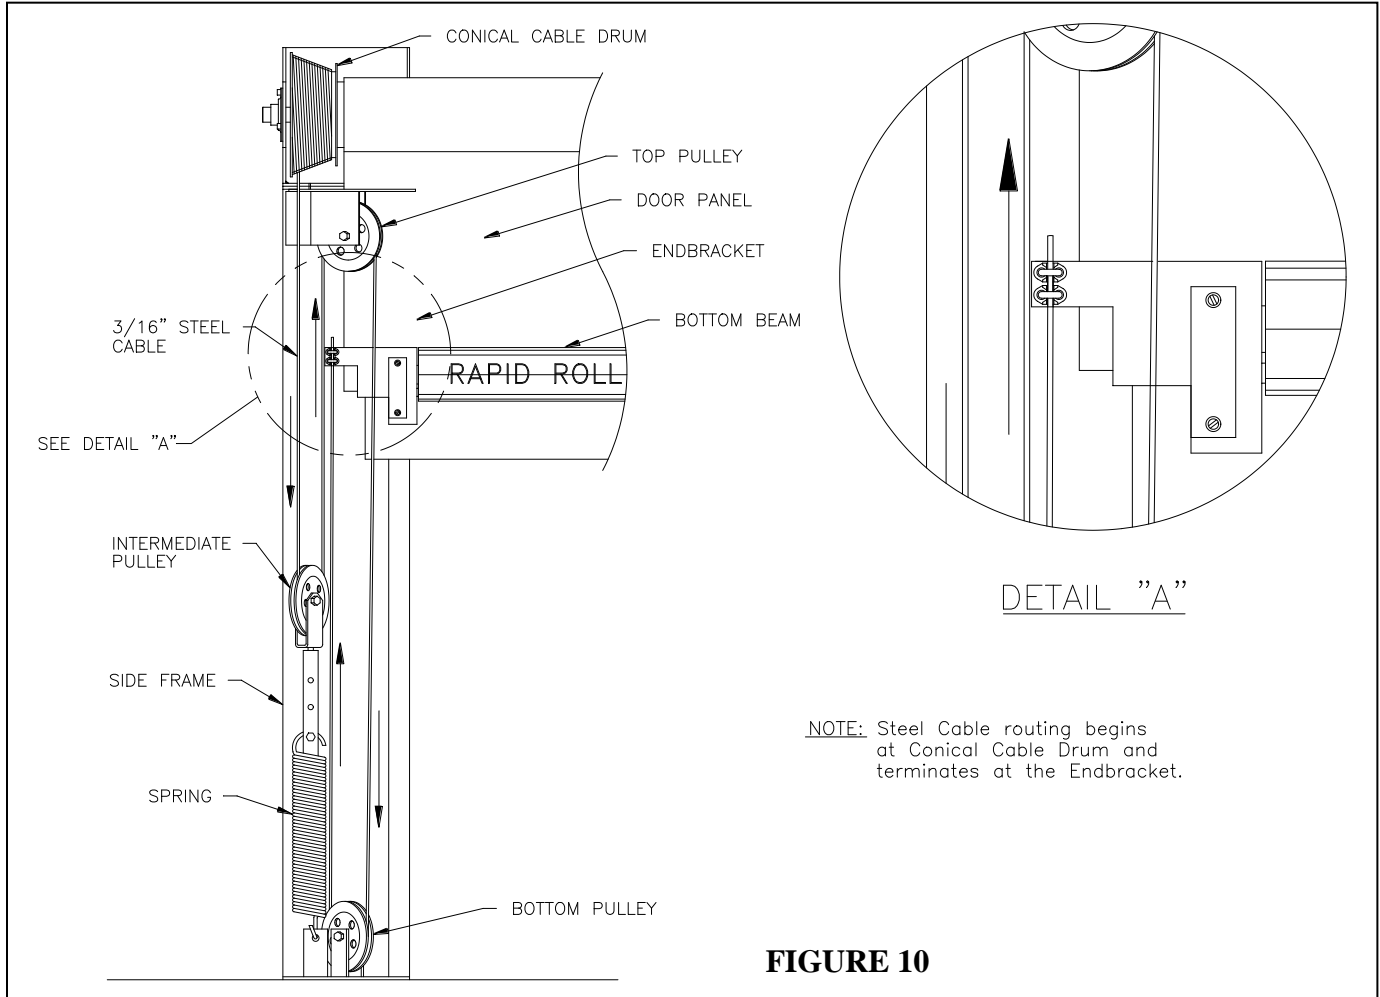

FIGURE 10
**NOTE: REFERENCE FIGURE 10 WHILE PERFORMING THE NEXT 4 STEPS.
- I. Thread the end of the cable up through both U-bolt wire rope clips on the appropriate end on the bottom beam (**Figure 10 Detail A**). Pull cable taught and tighten down bolts on both clips. See notes below.